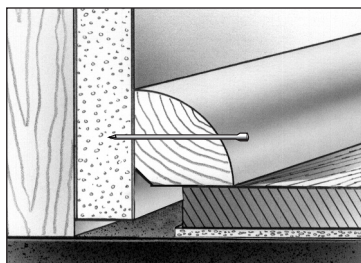

Fig. 28
1. Nail the moulding to the wall, not the floor (Fig. 28).